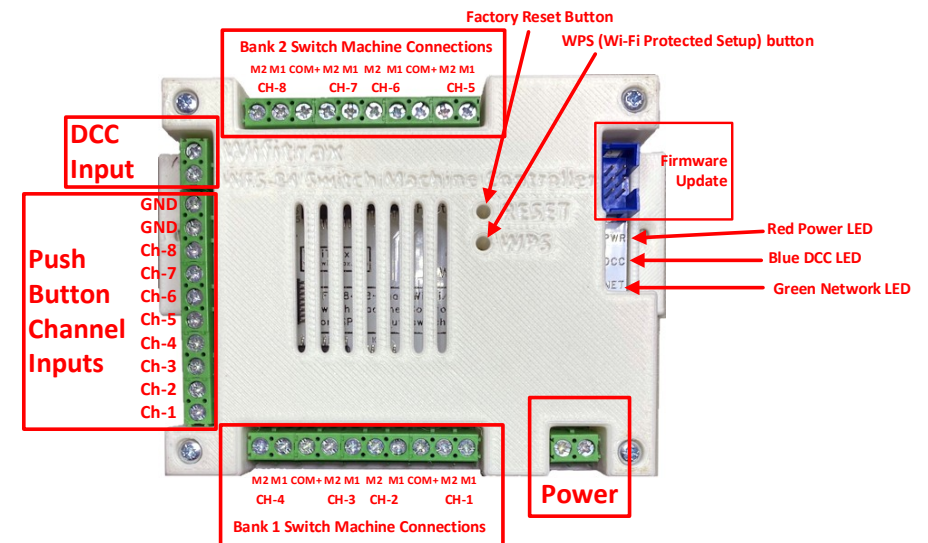
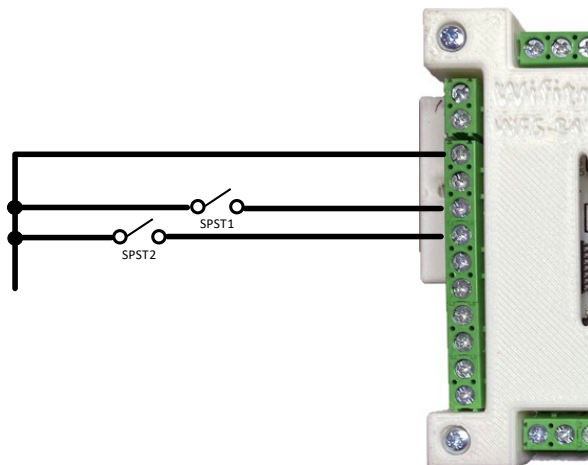

Figure 1 WFS-84E Connections
Figure 3. Wiring for Manual Push-buttons
The WFS-84E supports DCC being connected directly to the module. To control turnouts with DCC via the WFS-84E, connect your DCC track power to the DCC Input shown in Figure 1.
- (2) Figure 1 shows the WFS-84E module with its connections labelled.
- (4) Optionally connect momentary normally-open push buttons between any or all of the inputs Ch1-Ch8 and one of the two Ground connections. These are shown on the left of Figure 1 and an example shown in Figure 3.
- (5) Connect your WFS-84E to DC or DCC power, 12 – 15 Volts. About 15 V DC is usually ideal or about 14-15 V Peak-Peak DCC. It does not matter which way around you connect the power. Do not turn on the power until ready for testing. Mount your WFS-84E suitably so that it does not move around.